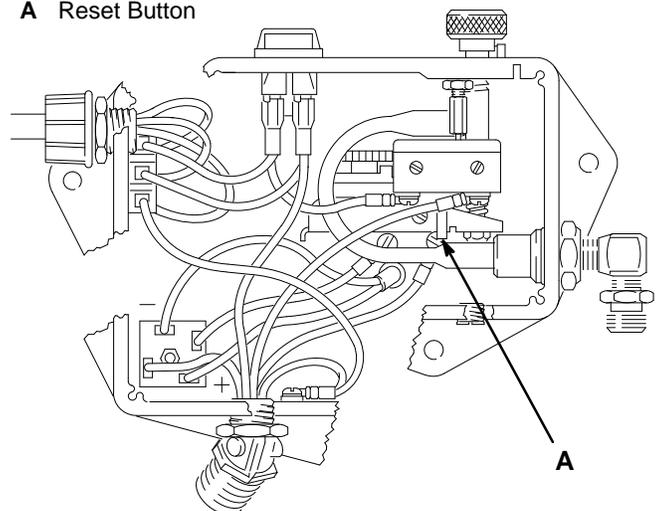

Fig. 6
- To reset the switch, be sure the fluid pressure is relieved and the power supply cord is unplugged. Remove the pressure control cover. Press the reset button. Reinstall the pressure control cover. See Fig 6.